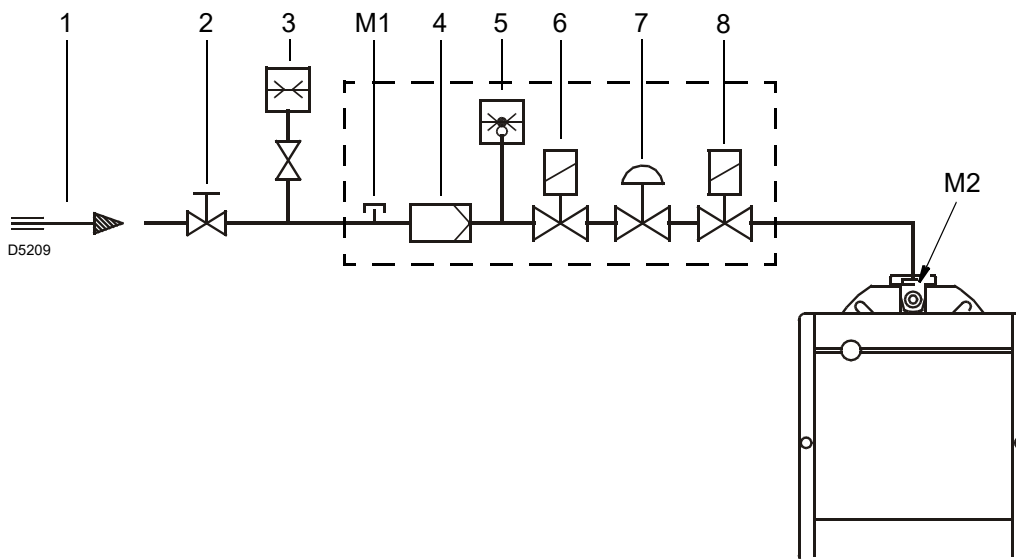

Fig. 16
Key (Fig. 16)
Gas pressure measured at test point M2)(Fig. 16), with:
- subtract the pressure in the combustion chamber from the pressure of the gas at test point M2)(Fig. 16).
Gas pressure at test point M2)(Fig. 16) = 10 mbar
To calculate the required gas pressure at test point M2)(Fig. 16), with the maximum modulating output at which you want the burner to operate having been fixed:
- Read on the right, column 1, the pressure at the socket M2)(Fig. 16).